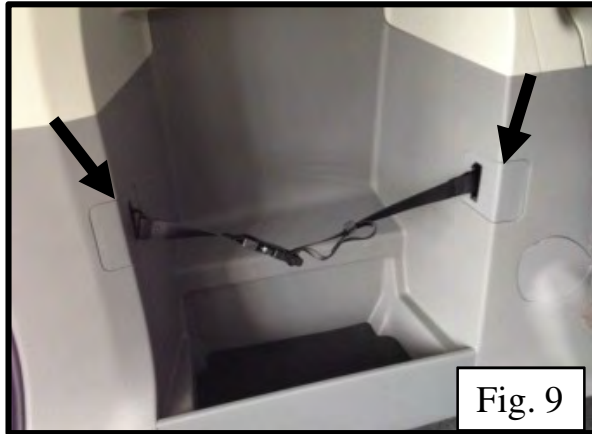

Fig. 9
11. If 8 Passenger Seat option is installed, remove covers (black arrows) and remove strap (Fig.9).